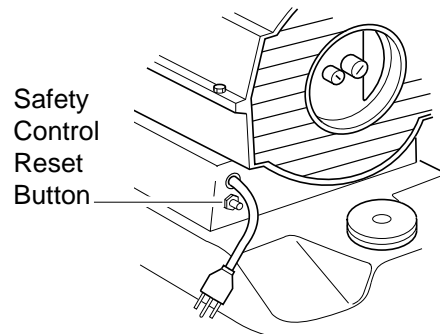

Figure 6 - Safety Control Reset Button, 35/50/70 Models
5. Plug extension cord into standard 120 volt/60 hertz, 3-prong grounded outlet. Heater will start when extension cord is plugged into outlet. If not, push in heater's safety control reset button (see Figures 6 and 7).